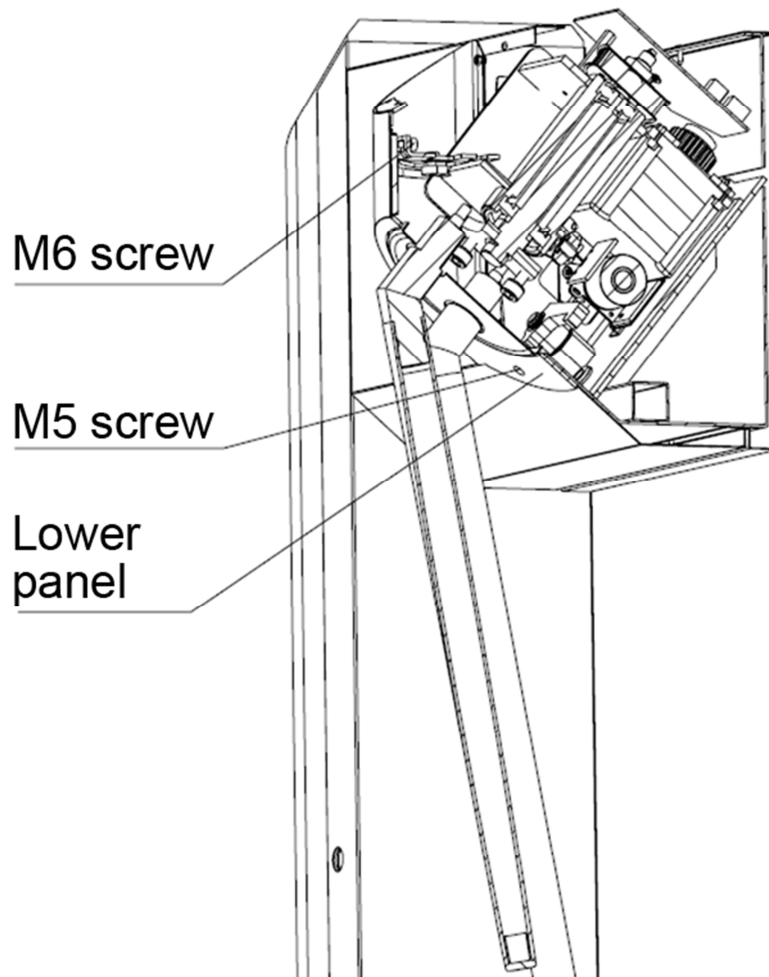

Fig. 6
- Remove two M6 DIN7985 screws (Fig. 6);
- Remove one M6 GOST11738-84 screw (Fig. 6);